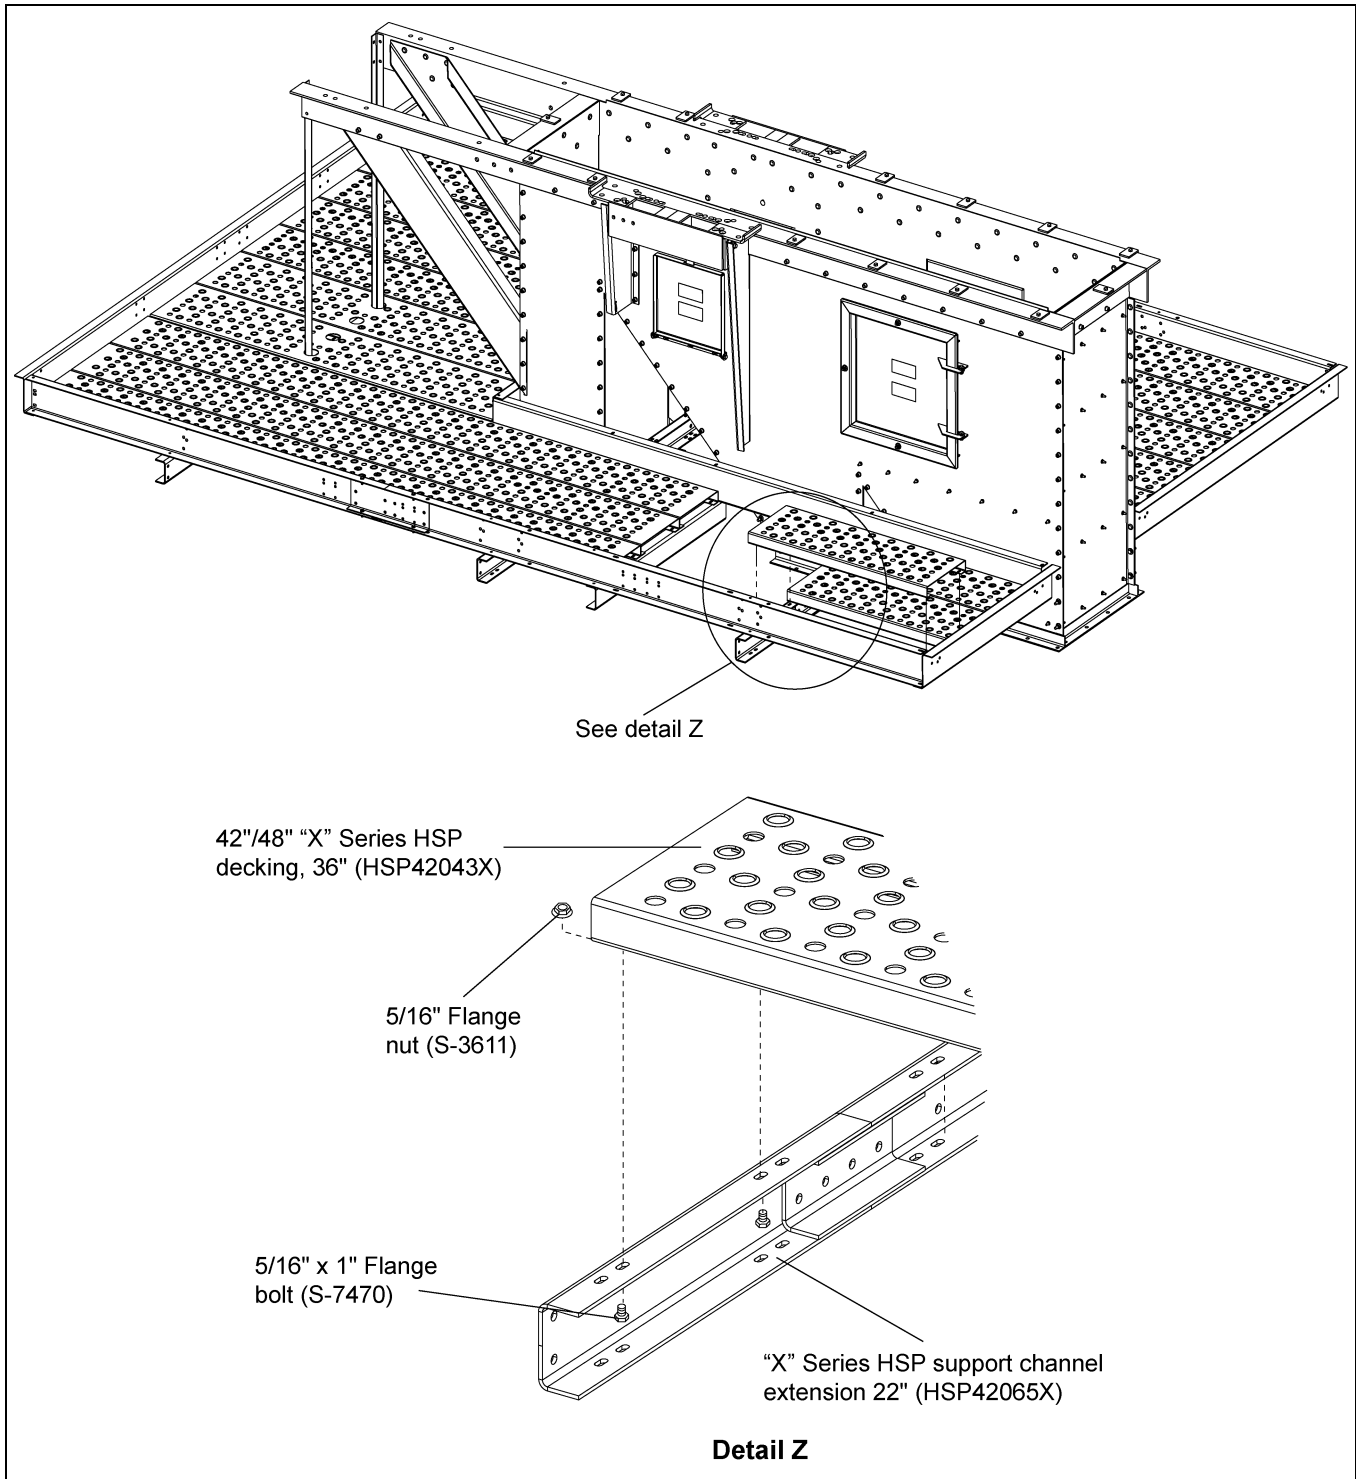

Figure 8M
2. Fasten the decking to the support channel (HSP42065X) using 5/16" x 1" flange bolts (S-7470) and 5/16" flange nuts (S-3611). (See Figure 8M.)